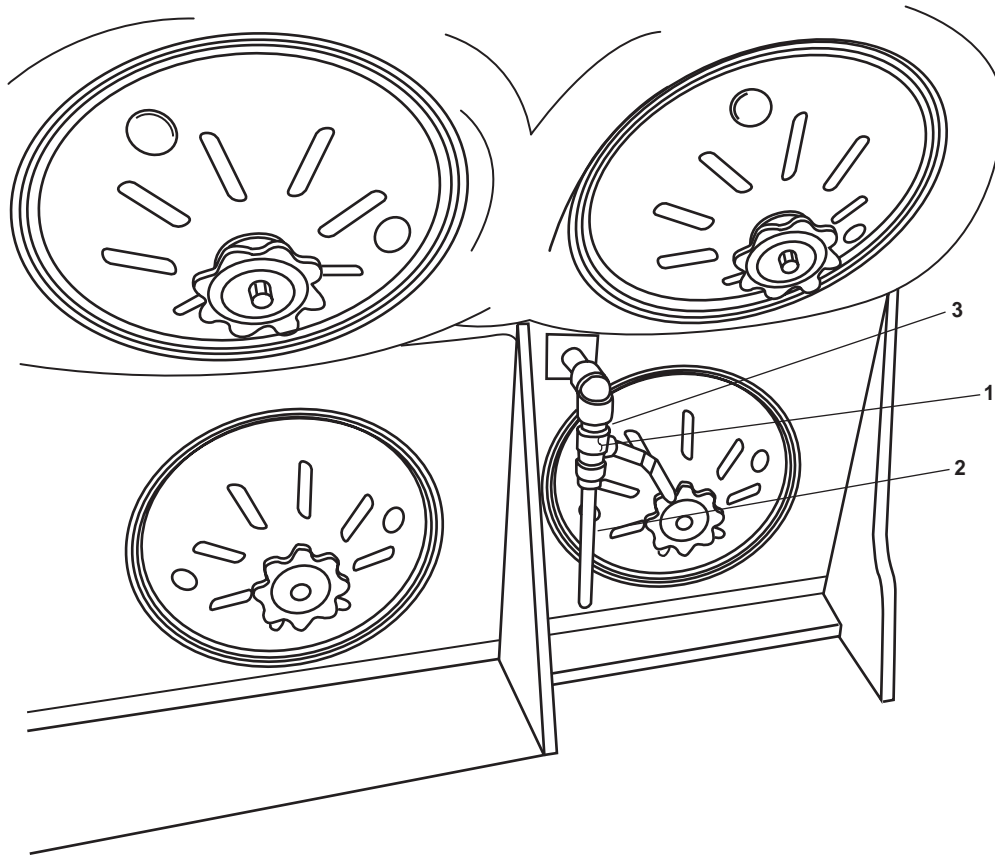

Figure 1. Air Box Drain Valve (Typical)
1. Place a suitable drain pan under the air box drain valve (figure 1, item 1).
2. Remove the lower drain pipe (figure 1, item 2) from the air box drain valve (figure 1, item 1).
3. Remove the air box drain valve (figure 1, item 1) from the upper drain pipe (figure 1, item 3).
1. Using a wire brush, clean the remnants of antiseizing tape from the male thread connections of both the upper drain pipe (figure 1, item 3) and the lower drain pipe (figure 1, item 2).
2. Apply antiseizing tape to the male pipe threads of the upper drain pipe (figure 1, item 3).
3. Install the air box drain valve (figure 1, item 1) onto the upper drain pipe (figure 1, item 3).
4. Apply antiseizing tape to the male pipe threads of the lower drain pipe (figure 1, item 2).
5. Install the lower drain pipe (figure 1, item 2) into the air box drain valve (figure 1, item 1).